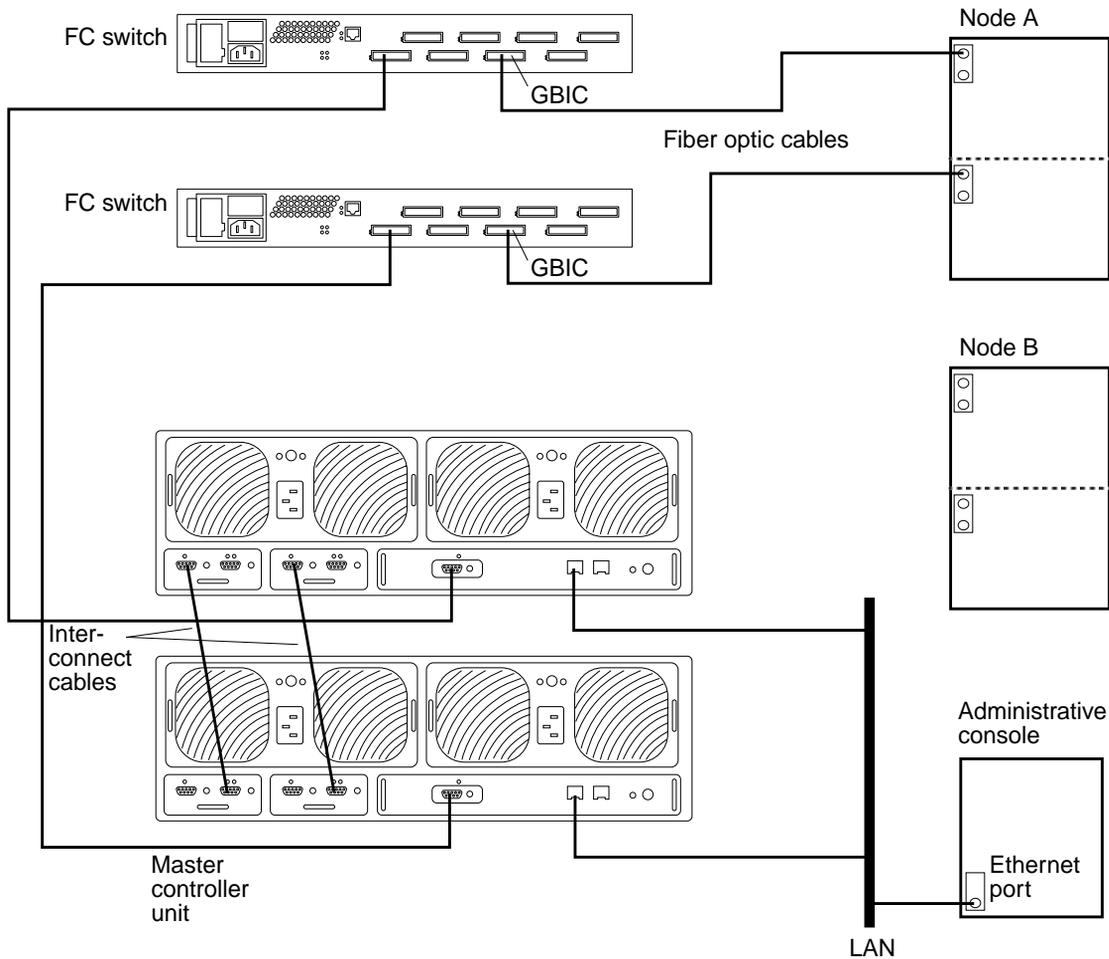

FIGURE 9-3 Adding Sun StorEdge T3/T3+ Arrays, Partner-Group Configuration
24. If necessary, install GBICs to the FC switches, as shown in FIGURE 9-3.
25. Connect fiber optic cables between Node A and the FC switches, as shown in FIGURE 9-3.